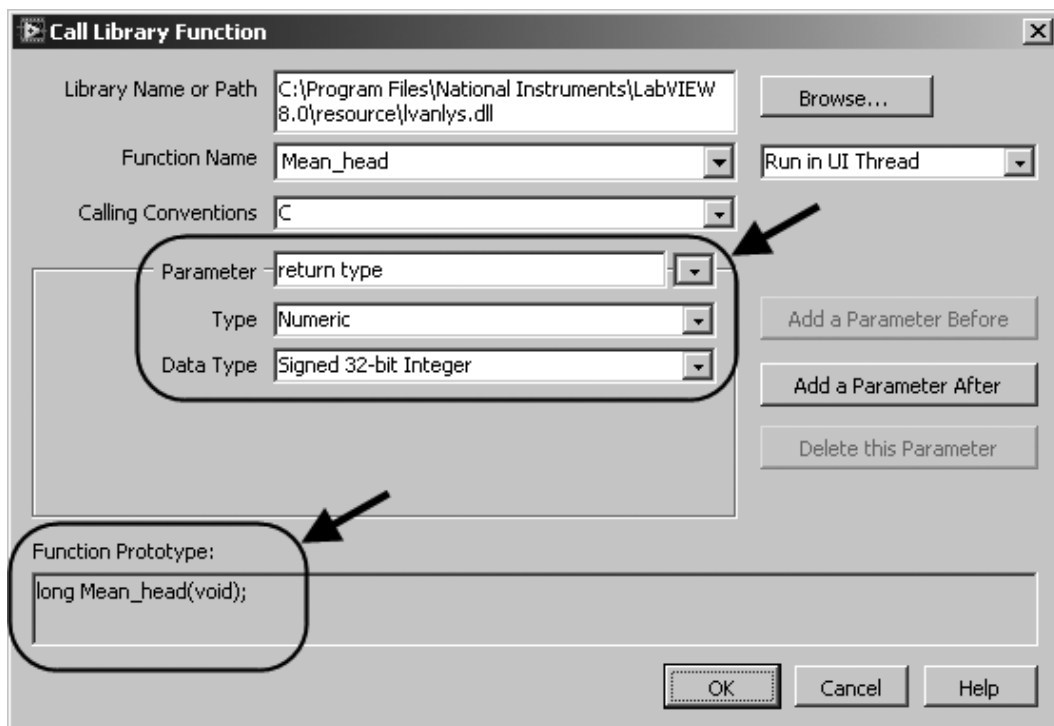

Figure 14.44
- d. So your first step is to define the **Return Type** parameter. Looking at the previous documentation, you can see that this function returns a *long* numeric. Click on the **Parameter** box and choose "return type." From the "Type" box below, choose "Numeric." When you do so, a new option appears, called "Data Type." Make sure it is set to "Signed 32-bit Integer." It should look like Figure 14.44.